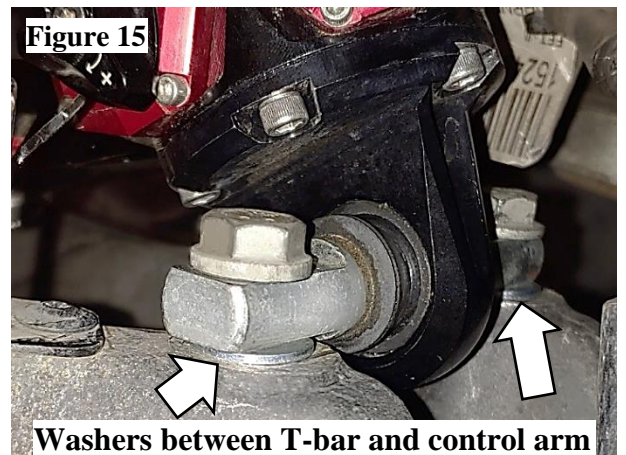

Figure 15
18. With the adjustment knobs inboard (towards the engine), attach the lower shock mount with **two washers between the t-bar and the control arm** using the included 5/16" x 2.5 hardware. Torque to 25 lb. ft. **(Figure 15)**